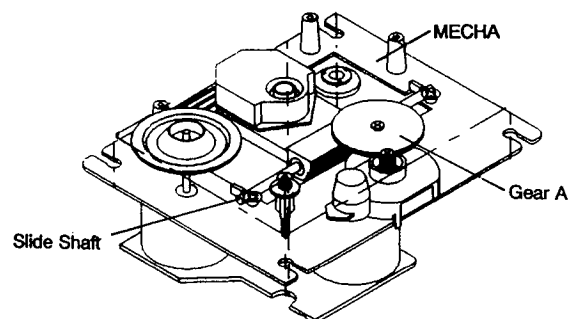

Figure 10
3. Remove the gear A (See Figure 10).